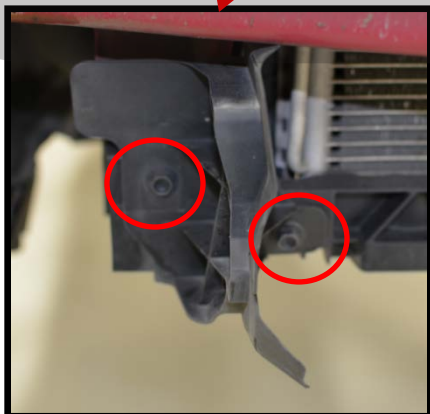

Figure 5b
- a) Remove the OEM air dams. Use a 10mm socket and ratchet to remove the bolts circled in red shown in Figure 5b-c.